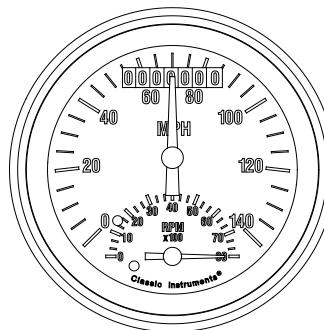

FIG. 2
- 5) When setup is complete, select the exit option (8000 RPM) then press and hold the pushbutton. **Fig. 2**